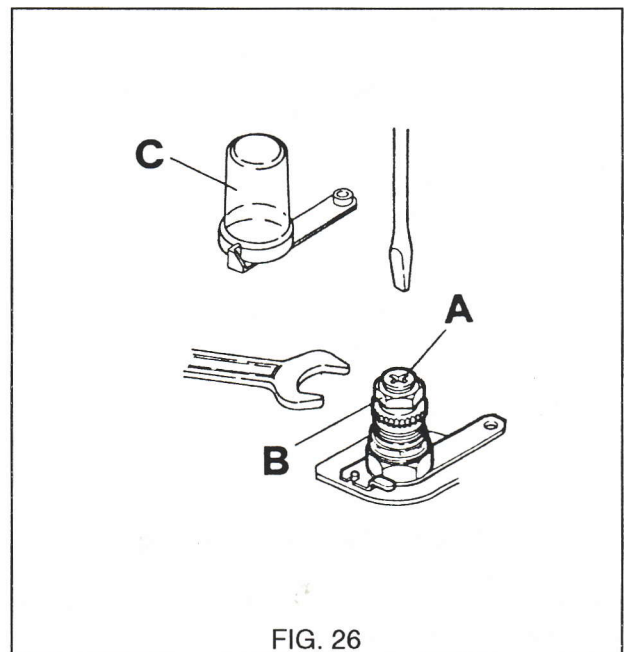

FIG. 26
- I) Remove the sealing cap of the proportioning unit (C) (Fig. 26) by rotating it ¼ turn anticlockwise.
- II) Using a 10 mm spanner, turn nut (B) (Fig. 26) to attain the required D.H.W. max. burner pressure of 12.9 mbar (5.2 inwg). Turn the nut clockwise to increase the pressure or anti-clockwise to decrease it.
- V) Set the minimum pressure of 1.5 mbar by holding nut (B) (Fig. 26) in position with a 10mm spanner and rotating the plastic screw (A) with a screwdriver until the correct pressure is obtained. Turn the screw clockwise to increase the pressure or anti-clockwise to decrease it. It is
- VII) Refit the proportioning unit sealing cap. (C) (Fig. 26).